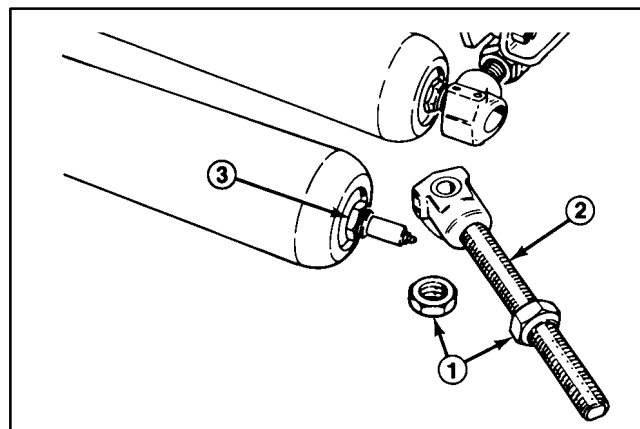

Figure 27
2. Remove collar assembly from roller adjustment housing (Fig. 27)
IMPORTANT: When assembling a new roller to the cutting unit, mount roller so that the roller shaft "locknut" is on the right side of the cutting unit. (As viewed by the operator sitting on seat of machine). This prevents the lock nut from loosening during operation (Fig. 27).
2. Install collar assembly to the roller adjustment housing (Fig. 27)